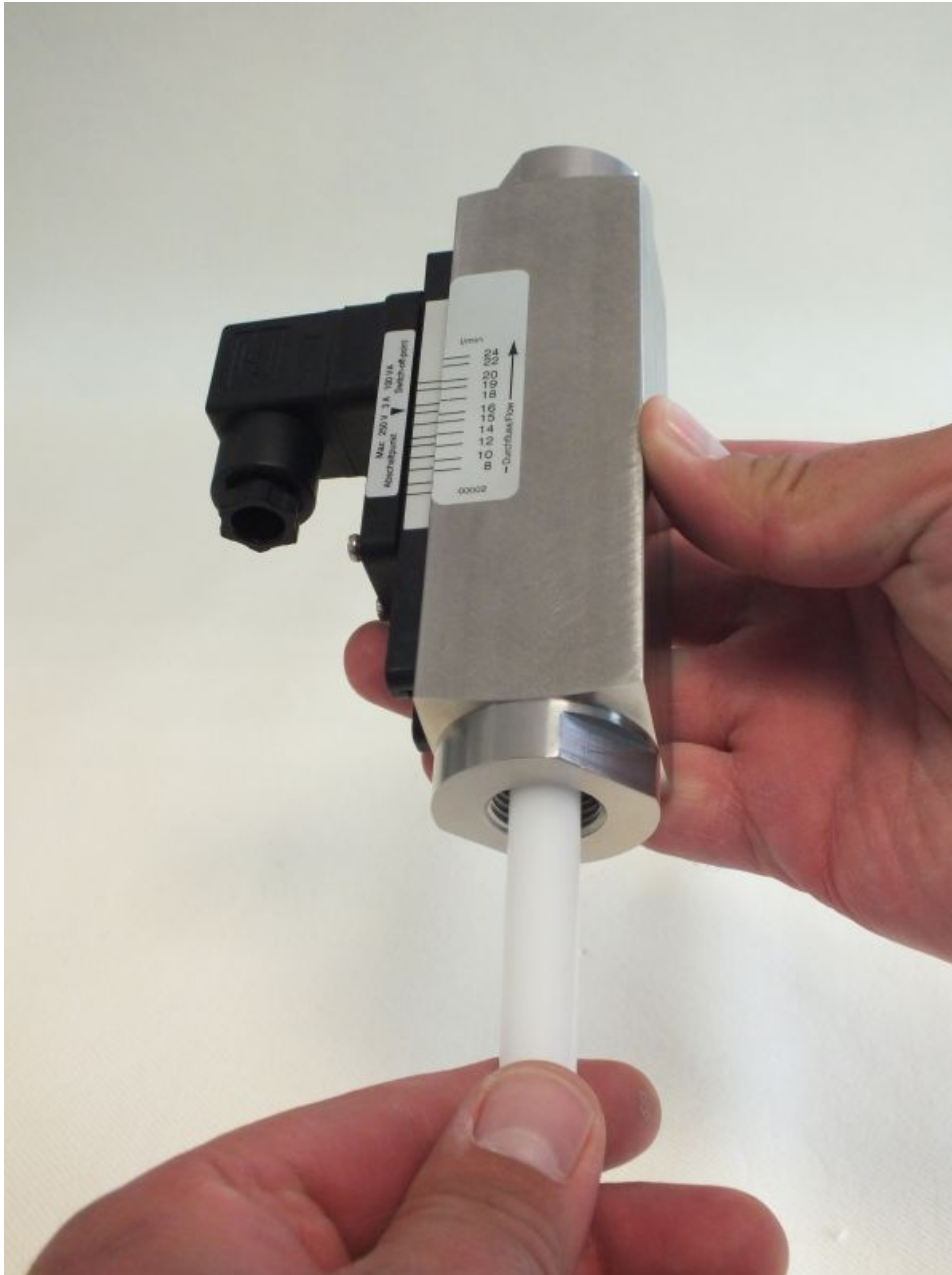

Fig. 65: Check for smooth operation
- 14.** Check the float for ease of movement (Fig. 65) by applying pressure with the test rod